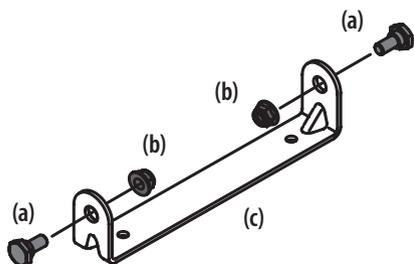

Figure 6
1. Remove the shoulder bolts (a) and lock nuts (b) from the seat mounting bracket (c) included in your hardware pack. See Figure 6.